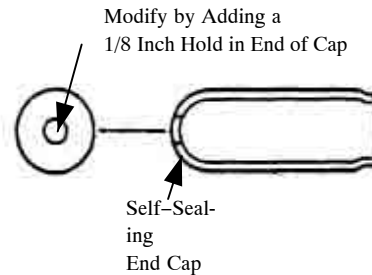

Figure 21. Modifying Self-Sealing End Cap
- d. Modify self-sealing end cap as shown in Figure 21.